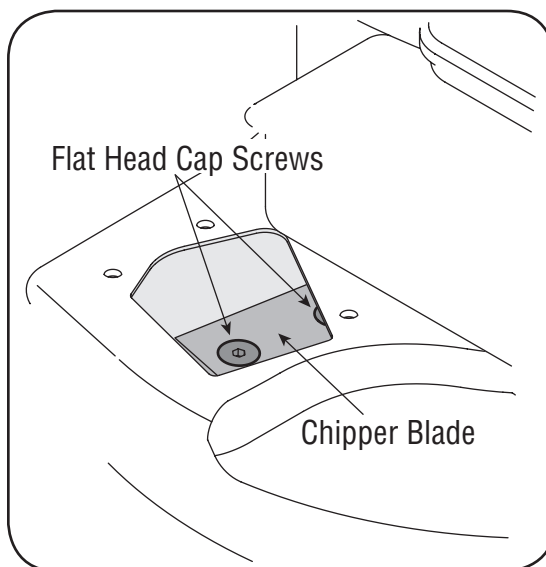

Figure 5-7
- Using a 3/16" allen wrench, remove the flat head cap screws that hold the chipper blade to the impeller. These screws are accessible through the opening created when the chipper chute was removed earlier. See Figure 5-7.